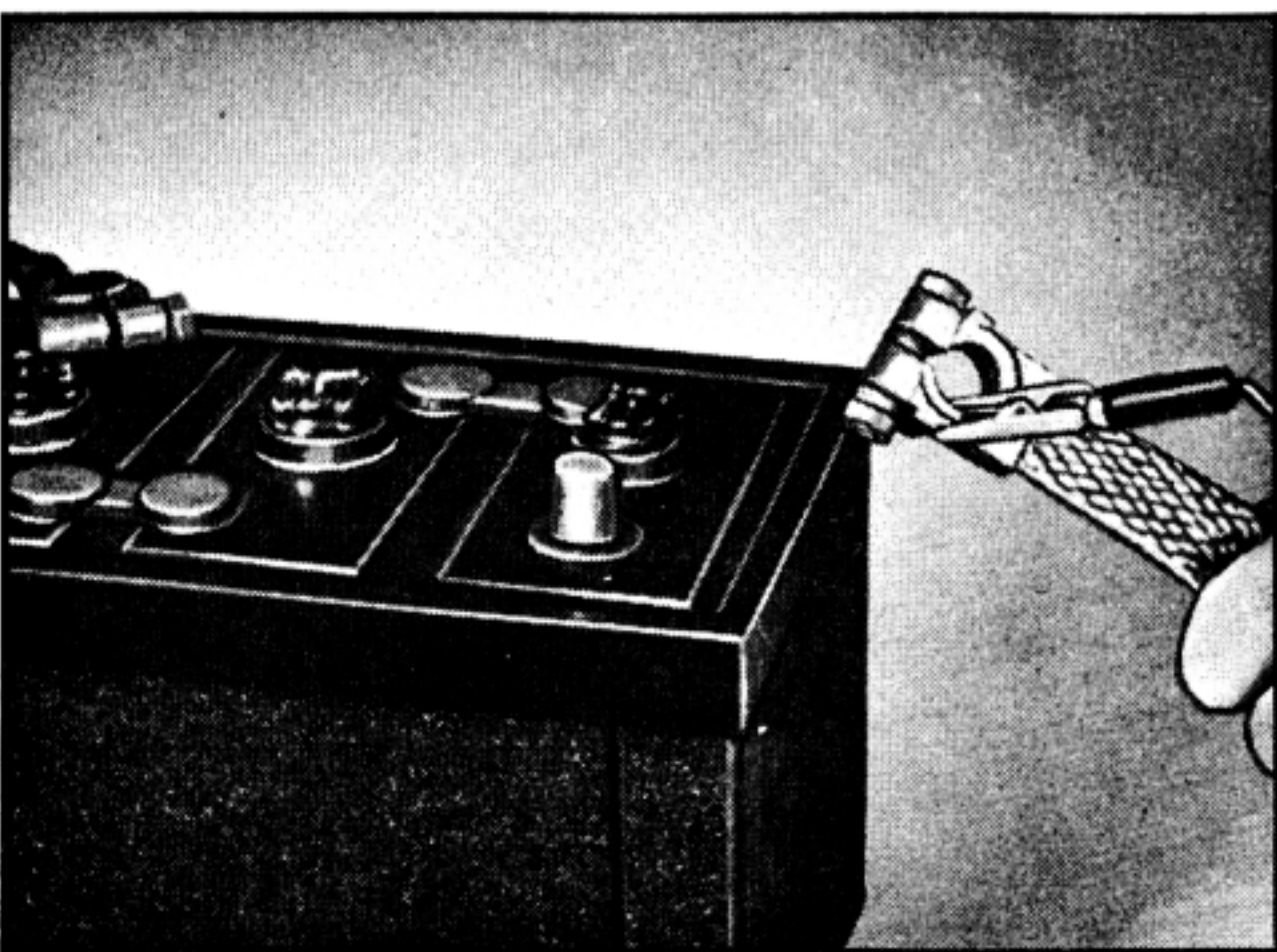

Figure 8: Disconnect cable leading to ground.
3. Connect alligator clip to ground strap (Figure 8).